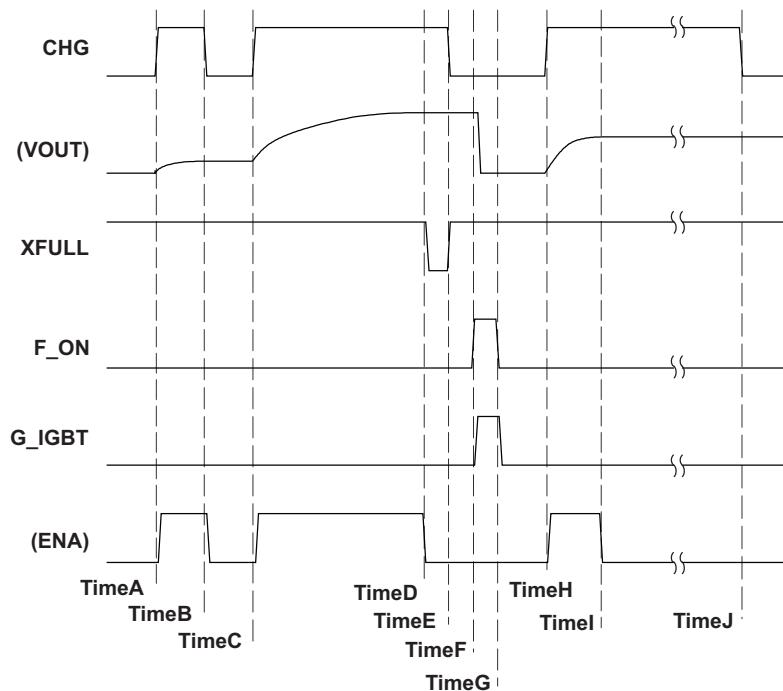

Figure 4. Whole Operation Sequence Chart
The only way to *start* charging is to input CHG↑ (see time A/C/H in Figure 4). Each time CHG↑ is applied, the TPS65561 starts charging.
1. *Forced stop* by inputting CHG = L from the controller (see timeB in Figure 4).
2. *Automatic stop* by detecting a full charge. VOUT reaches the target value (see TimeD in Figure 4).
3. *Protected stop* by detecting an over current function (OV_{DS}) trigger at SW pin (see Timel in Figure 4).
The device starts charging at *timeH*, and OV_{DS} protection occurs at *TimeI* (see Figure 4). At *TimeI*, XFULL stays high. At *TimeJ*, the controller detects OV_{DS} protection through the expiration of a timer and then sets CHG to low to terminate the operation.
The TPS65561 provides an overvoltage monitor function of the SW pin. The TPS65561 is latched off if the voltage on the SW pin is above OV_{DS} during the switch ON time (see Figure 4 and its descriptions).